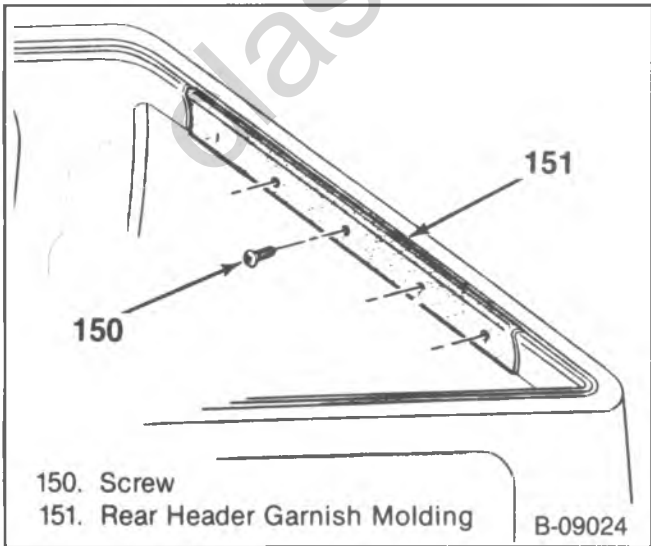

Figure 50—Rear Header Garnish Molding
9. Roof rear header garnish molding screws and the molding (figure 50).
6. Roof rear head garnish molding and screws (figure 50).